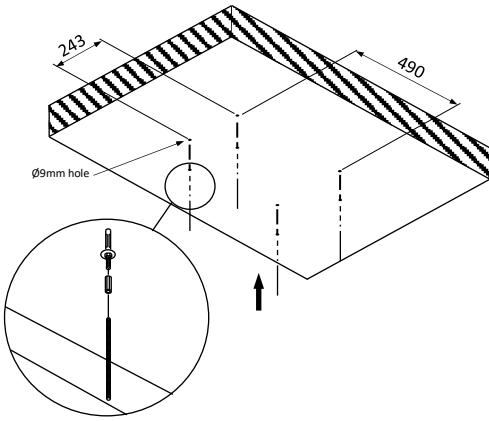
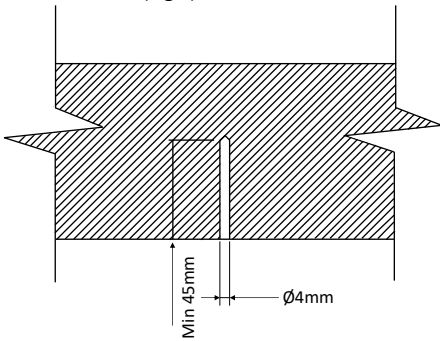

Fig 2
Fig 3
1. Drill a $\text{Ø}4\text{mm}$ hole in the bulkhead (Fig 3) at the 4 anchor locations (Fig 2).